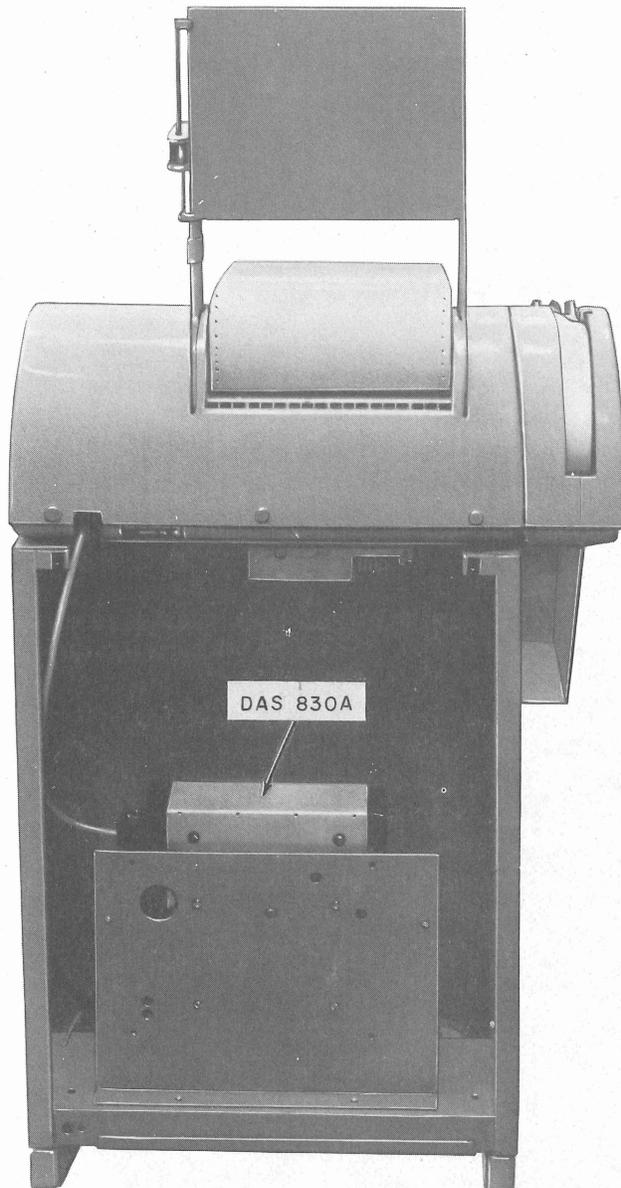

Fig. 2—DAS 830A Mounted in a Model 33 TTY
2.03 DAS 830A is mounted in the pedestal (stand) of the M33 TTY (Fig. 2). Access to the DAS 830A is obtained as follows: